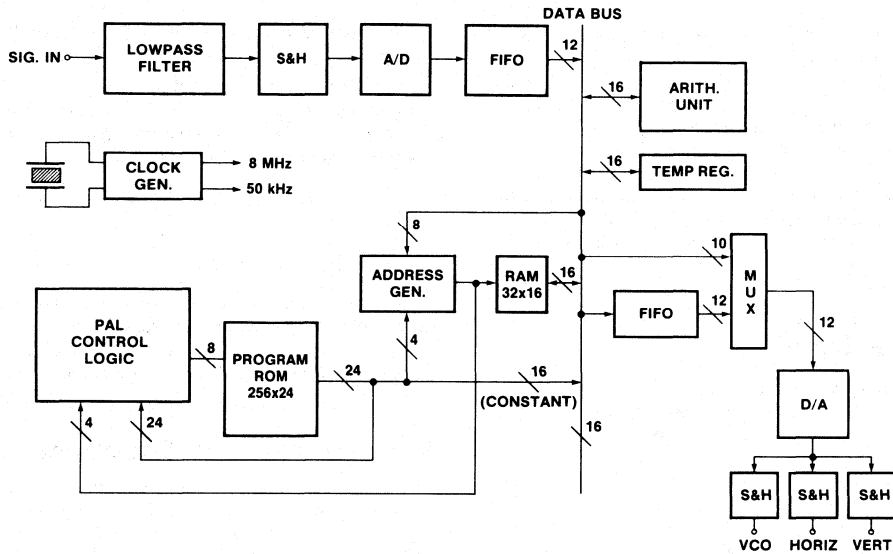

Figure 6. Analyzer Architecture
The architecture used for the spectrum analyzer is shown in Fig. 6. Input signals are digitized and buffered with FIFOs before interface with a common 16-bit data bus. The 16-bit arithmetic unit (AU) provides multiply and accumulate operations. A 16-bit wide RAM stores intermediate results. A 16-bit temporary register facilitates z^{-1} delays and data movement. Outputs are provided using a D/A converter and S&H circuits.
The architecture of Figure 6 is customized to provide an efficient algorithm for linear-to-logarithmic output conversion. The RAM address generator monitors the 8 MSBs of the data bus, and can provide a number indicating the MSB position of a positive